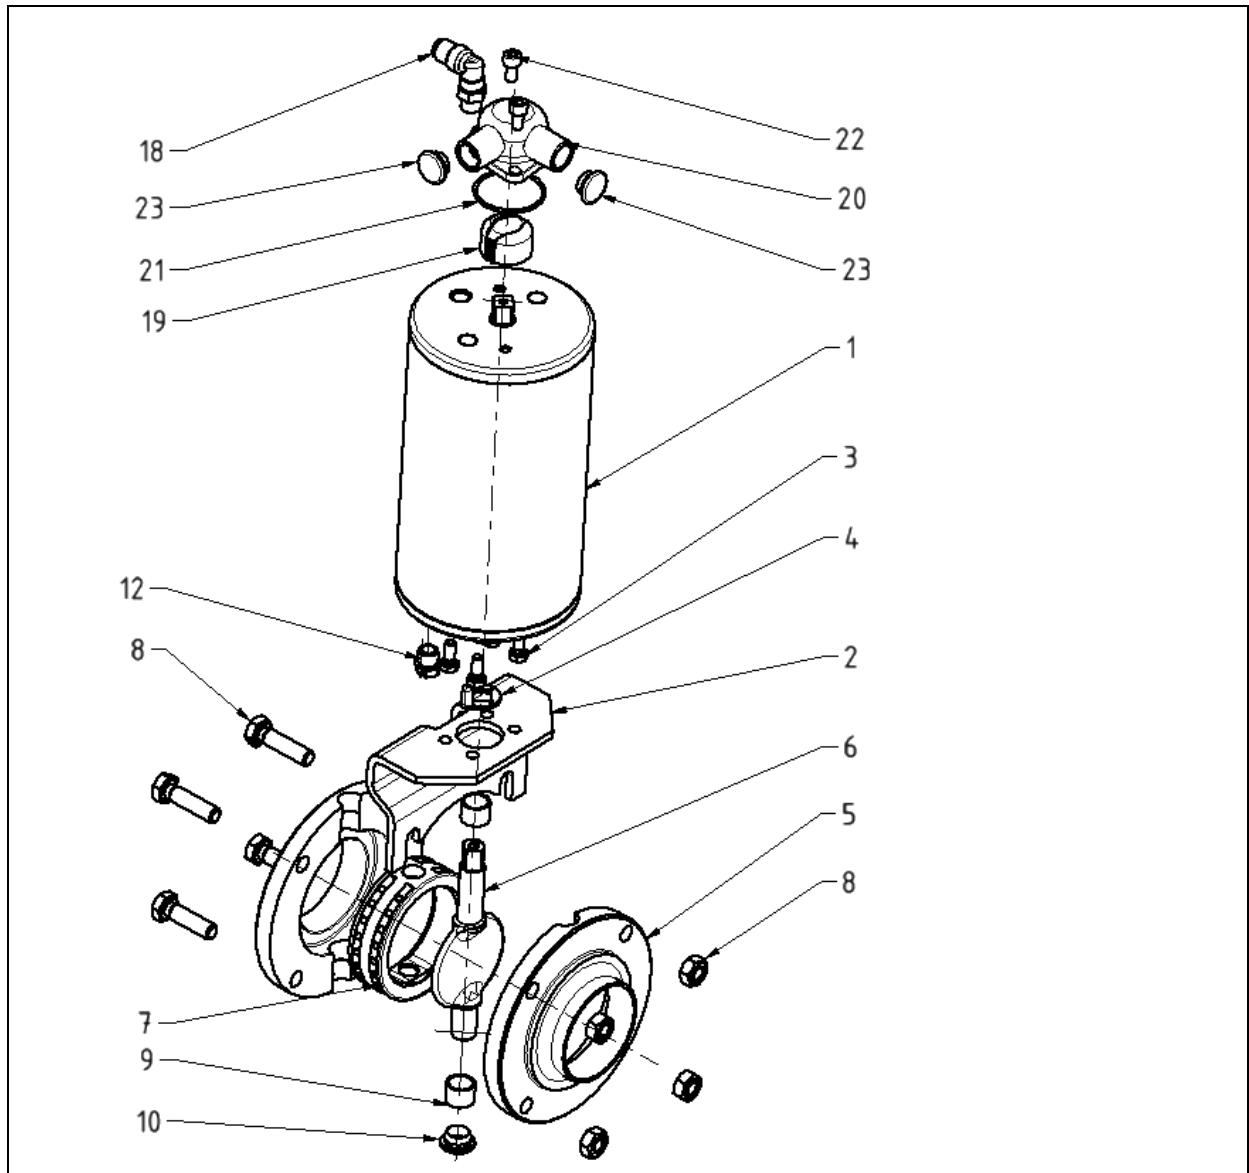

Fig. 6.3: Structure of Butterfly Valve with Pneum. Actuator
- Disconnect the compressed air connection (Fig. 6.3, item 18) from the pneumatic actuator.
- Remove the bolt group (Fig. 6.3, item 8) and the blanking plug (Fig. 6.3, item 10).
- Pull out the entire “pneumatic actuator with holding bracket” assembly group (Fig. 6.3, items 1, 2 and 3) in the direction of the axis.
- Pull out the position indicator (Fig. 6.3, item 4) in the direction of the axis.
- Separate the flanges (Fig. 6.3, item 5).
- Remove the valve disc (Fig. 6.3, item 6) together with the gasket (Fig. 6.3, item 7) and bushings (Fig. 6.3, item 9) from the flange.
- Pull the bushings (Fig. 6.3, item 9) off the shafts of the valve disc and pull the short shaft of the valve disc (Fig. 6.3, item 6) out of the hole in the gasket (Fig. 6.3, item 7), and then pull out the long shaft.
- Check the gasket (Fig. 6.3, item 7) for damage.
- Clean the valve disc (Fig. 6.3, item 6) including the shafts, and lubricate the gasket (Fig. 6.3, item 7) in the bearing shaft hole using approved grease (Unisilikon 641, for example, from Klüber).
- Insert the long shaft of the valve disc (Fig. 6.3, item 6) into the hole in the gasket (Fig. 6.3, item 7).
- Press the gasket (Fig. 6.3, item 7) together and pull it over the short shaft.
- Slide the bushings (Fig. 6.3, item 9) over the shafts of the valve disc (Fig. 6.3, item 6).
- Insert the valve disc (Fig. 6.3, item 6) with the gasket (Fig. 6.3, item 7) on it and the bushing (Fig. 6.3, item 9) the bearing shaft hole on the flange (Fig. 6.3, item 5).
- Carefully place the counter flange on the flange without damaging the gasket (Fig. 6.3, item 7).
- Set the valve disc (Fig. 6.3, item 6) to the “Closed” position.
- Place the position indicator (Fig. 6.3, item 4) on the square section of the valve disc (Fig. 6.3, item 6). When doing this, the position indicator must point in the same direction as the valve disc (Fig. 6.3, item 6). Note the direction of rotation of the actuator when installing the position indicator. On “air opening” (standard, clockwise rotation), it rotates to the right as viewed when looking at the square part.
- Place the inner square of the “pneumatic actuator with holding bracket” assembly group (Fig. 6.3, items 1, 2 and 3) on the square section of the valve disc (Fig. 6.3, item 6), assuring it is aligned properly.
- Place the milled slot in the holding bracket (Fig. 6.3, item 2) onto the upper pair of bolts.
- Tighten the bolt group (Fig. 6.3, item 8) in a crisscross pattern with the correct torque (see table below) and connect the air supply (Fig. 6.3, item 11) to the pneumatic actuator.
- Undo the bolt group (Fig. 6-3, item 8) and realign the holding bracket (Fig. 6-3, item 2). Once this is done, tighten the screws again.
- Undo the M5 hexagon bolts (Fig. 6-3, item 3) and realign the holding bracket (Fig. 6-3, item 2). Once this is done, tighten the screws again.